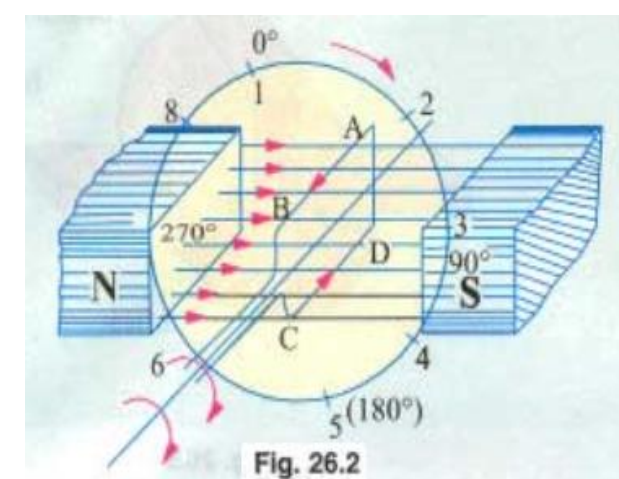

Fig. 26.2
- ❖ Let, a coil is rotating clock-wise direction having two sides *AB* and *CD* (**Fig. 26.2**). As the coil cuts the magnetic field, according to Faraday's law of electromagnetic induction an emf is induced in it which is proportional to the rate of change of flux ($e=Nd\phi/dt$).